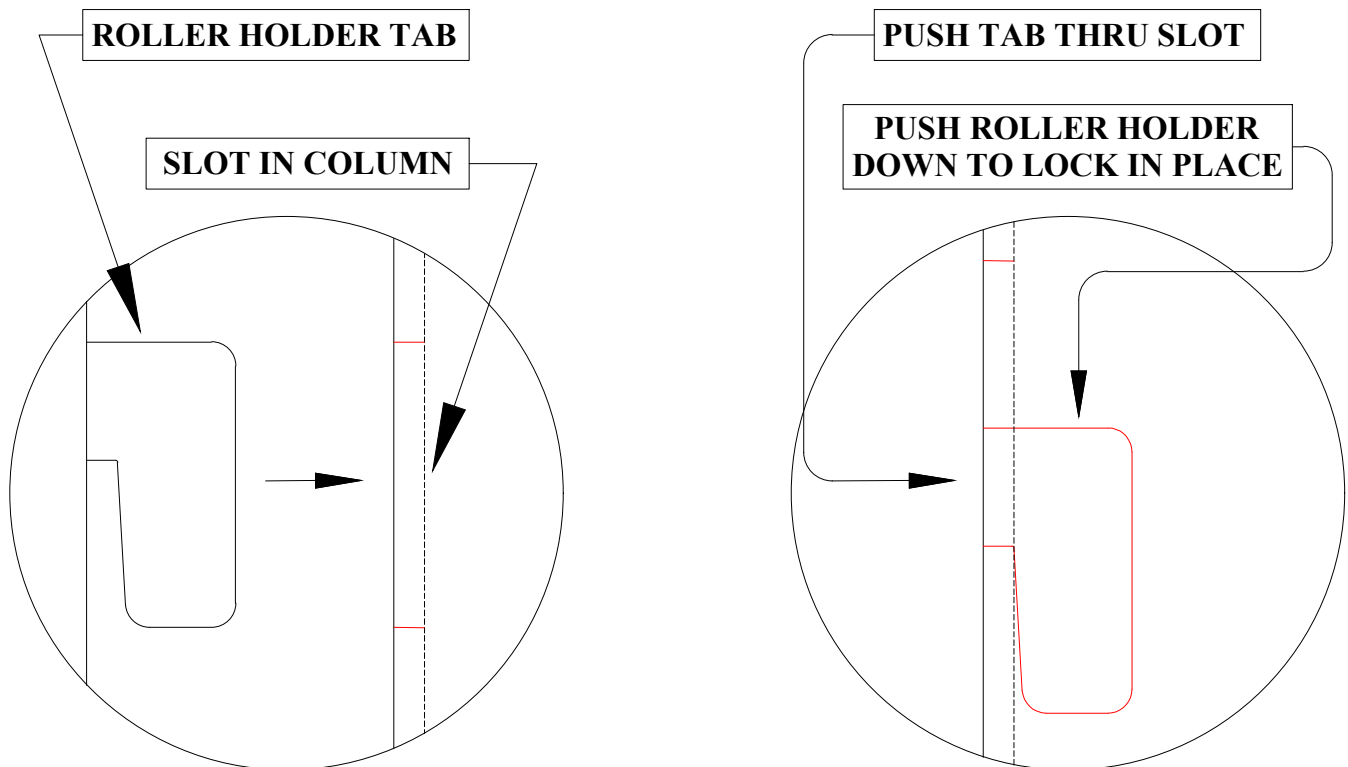

FIGURE 23
There is a P/N 04.00302 - Roller Holder available for the AL100U Grinder Notchers. This is a sheetmetal part that attaches to the front of the machine. There are (2) slots in the front on the column of the AL100U and the Roller Holder has (2) angled tabs that fit thru these slots. Put the tabs thru the slots and push the Roller Holder down and that's all it takes to attach it to the machine. See FIGURE 23 below & FIGURE 24 on the next page.